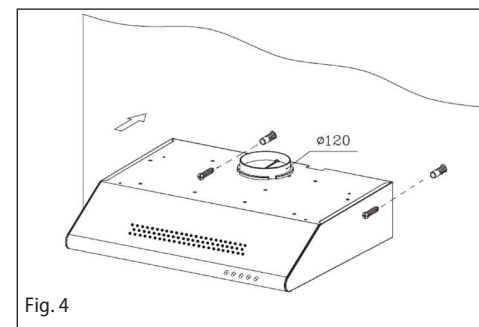
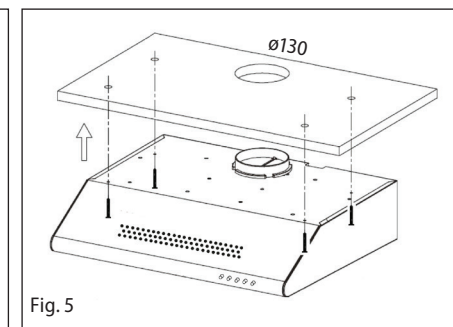

Fig. 4
Fig. 5
4. Check that there are no electrical cables in the area where you will drill the holes for installation. Drill the holes and attach the hood as shown in Fig. 4 to the wall or as shown in Fig. 5 to the upper cabinet.